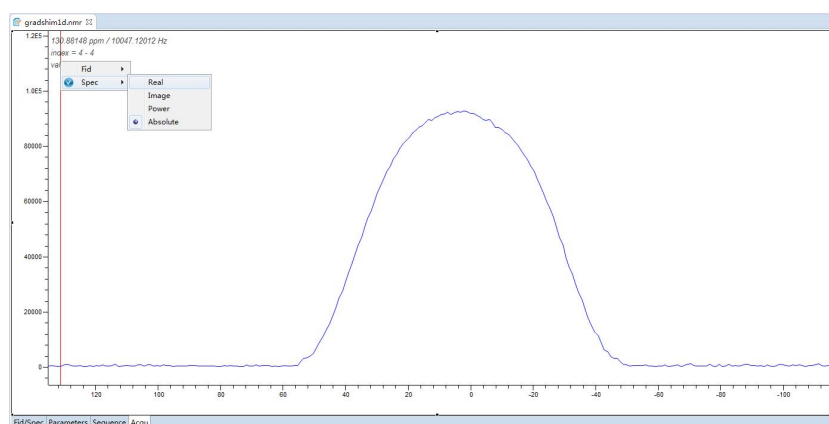

Figure 2.26 Process of gradient shimming
- (4) Clicking **Show Workspace**, will open the gradshim1d window in workspace (Figure 2.26), showing the whole process of gradient shimming.
- (2) Click **Start** button to make new field map. After the new map is made, the program will automatically start gradient shimming using the map. Clicking **Show Workspace** next to **Make Map** will open the gradshim1d window in workspace (Figure 2.26), showing the whole process of gradient shimming.